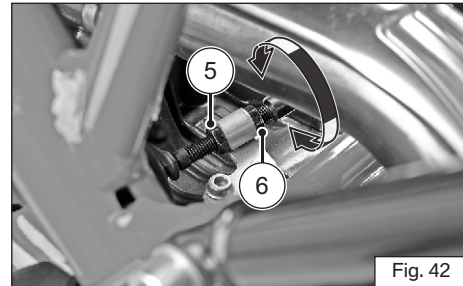

Fig. 42
- ◆ Turn the adjuster in (6) 'in' or 'out' until the specified play is obtained and then tighten the lock nut and check the adjustment once again (ref. Fig. 42).